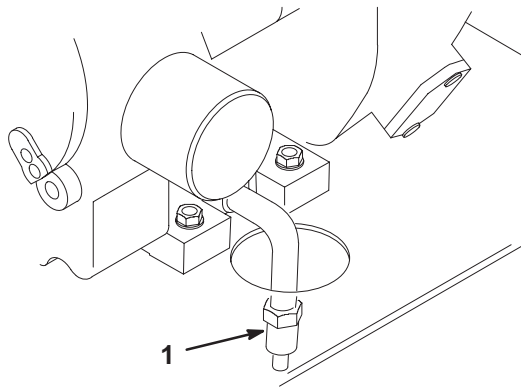

Figure 27
6. Open the drain by turning it counterclockwise 1/8 turn and pulling out on it (Fig. 27).